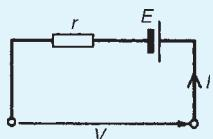

Figure 13.90
3. For the circuit shown in Fig. 13.90, the internal resistance  $r$  is given by: